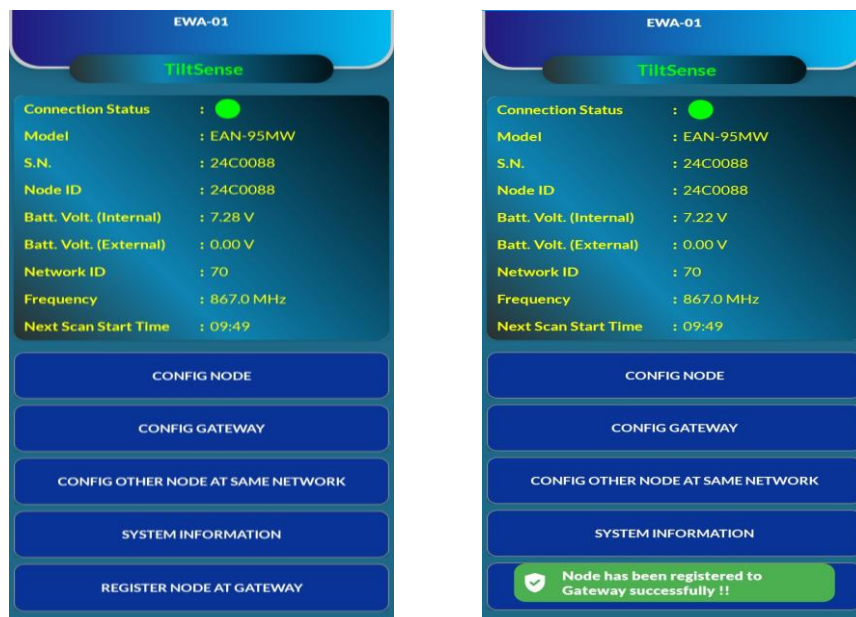

Figure 6-12
- Once the node is registered with the gateway, a prompt window for successful registration will pop-up as shown in the figure 6-12 (b).